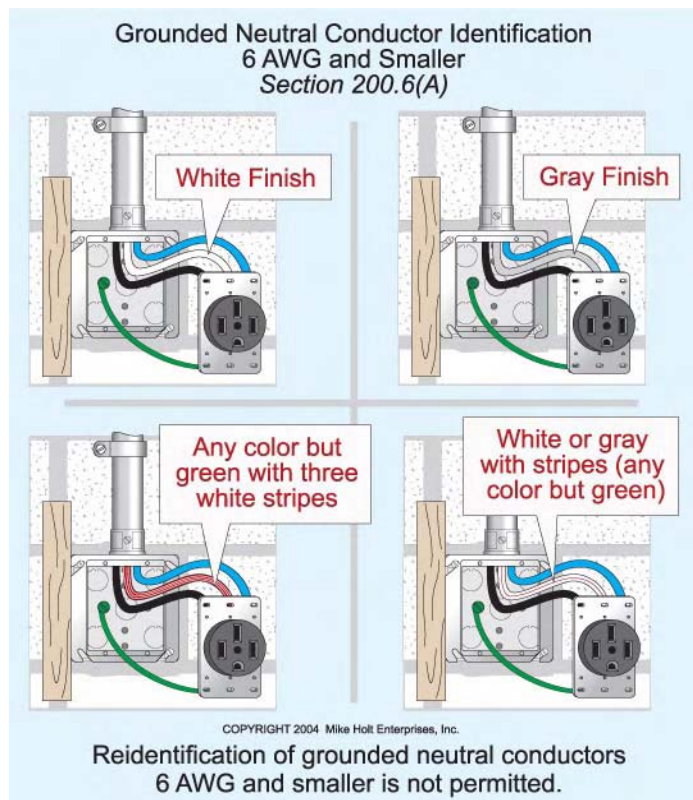

Figure 200-5
(A) 6 AWG or Smaller. grounded neutral conductors 6 AWG and smaller must be identified by a continuous white or gray outer finish along their entire length, or by any color insulation (except green) with three white stripes, or by white or gray insulation with any color stripes (except green). **Figure 200-5**